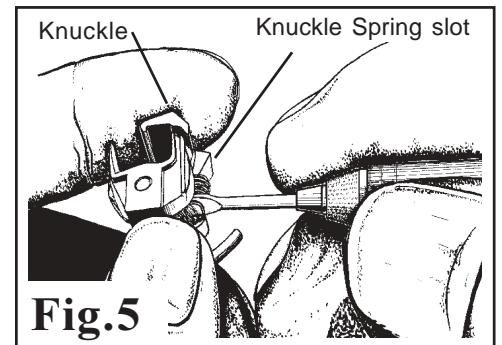

Fig.5
6. Coupler Knuckle Springs are factory installed. If one should come out during mounting, replace as follows: Insert small screwdriver blade between coils at one end of spring, then place other end of spring over either of the cone-shaped projections in the knuckle spring slot. Compress spring until the end can be slipped over opposite cone, see Fig. 5. Use only #860 Kadee® G Scale Knuckle Springs or #1875 Kadee® #1 Scale Knuckle Springs designed for this purpose. Any substitutions will not allow the coupler to work properly.